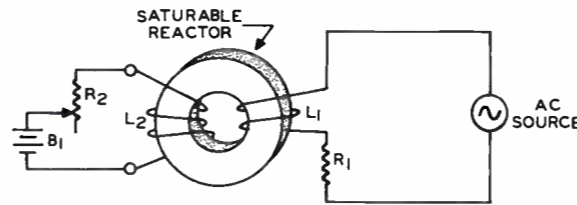

FIGURE 6
5. In the circuit of Figure 6, if the control current is increased so that the core saturates,